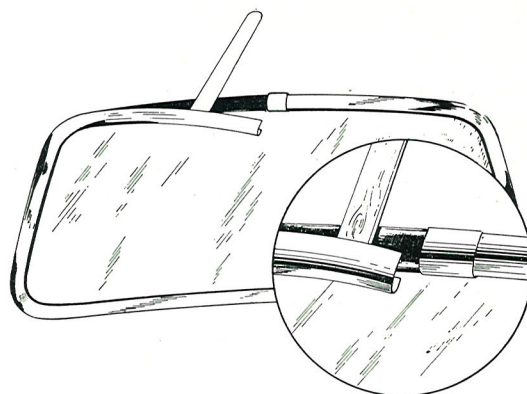

Fig. 8-18. Removing the trim moulding
3. Remove the trim moulding by prising out the ridge of the rubber strip from the trim moulding with a moistened wooden putty knife and releasing the trim moulding in the middle with another putty knife as shown in Fig. 8-18. Lever off the moulding carefully while releasing the rubber strip with the other putty knife.